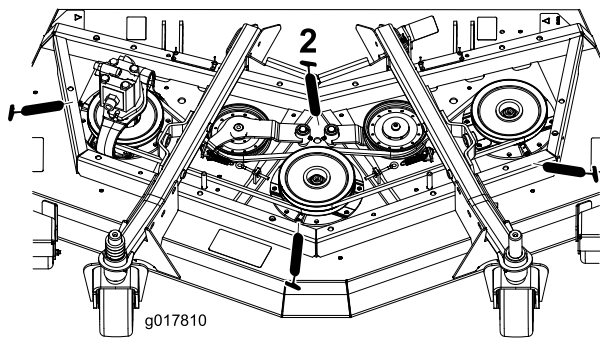

Figure 68
- 3 spindle-shaft bearings—located under the pulley (Figure 68)
- 2 idler-arm-pivot bushings (Figure 68)